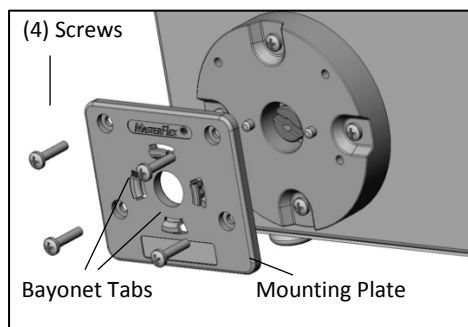

Figure 1: Attaching mounting plate to drive
1. If mounting plate is not attached to the pump drive, attach it using the provided four Phillips head screws (see Figure 1)
2. Orient the pump head with its back facing the drive and insert the tang on the pump head shaft into the shaft's slot on the drive. Align the bayonet features on the back of the pump head with the bayonet tabs on the front of the mounting plate (see Figures 1, 2 and 3). The